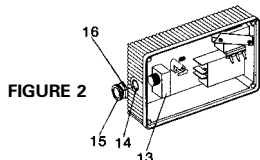
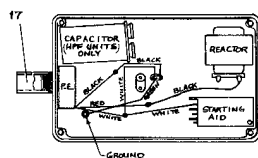

FIGURE 2
FIGURE 3
- 1) Turn power OFF, disconnect wiring, and dismount fixture. Remove the knockout (14) on the side of the aluminum housing (Fig. 2) by placing the blade of a screw driver in the groove and tapping with a hammer. Remove flashing if present. The housing can be oriented so that the side with the knockout is away from adjacent walls or other shading obstacles. Shadowing the photocell causes the light to turn on earlier and turn off later.
- 2) Remove nut from P.E. control and push P.E. control (13) through hole, if necessary use washer (16). Attach nut (15) and tighten to secure.
- 3) Make wiring connections (Fig. 3):
- 5) When a lightshield is required, push the piece of tubing (17) onto the threaded part of P.E. control.